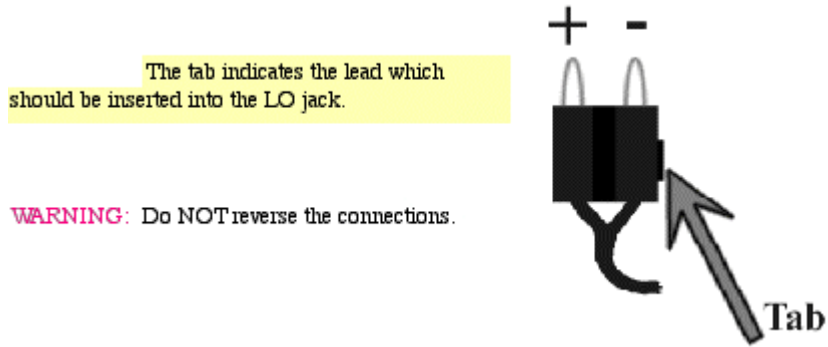

Figure 9
3. Take the BNC to the double banana plug cable (see Figure 8 above) and plug the BNC end into the power booster. Plug the double banana plug into the Lakeshore controller with the tabbed side in the LO. (see Figure 9 below)